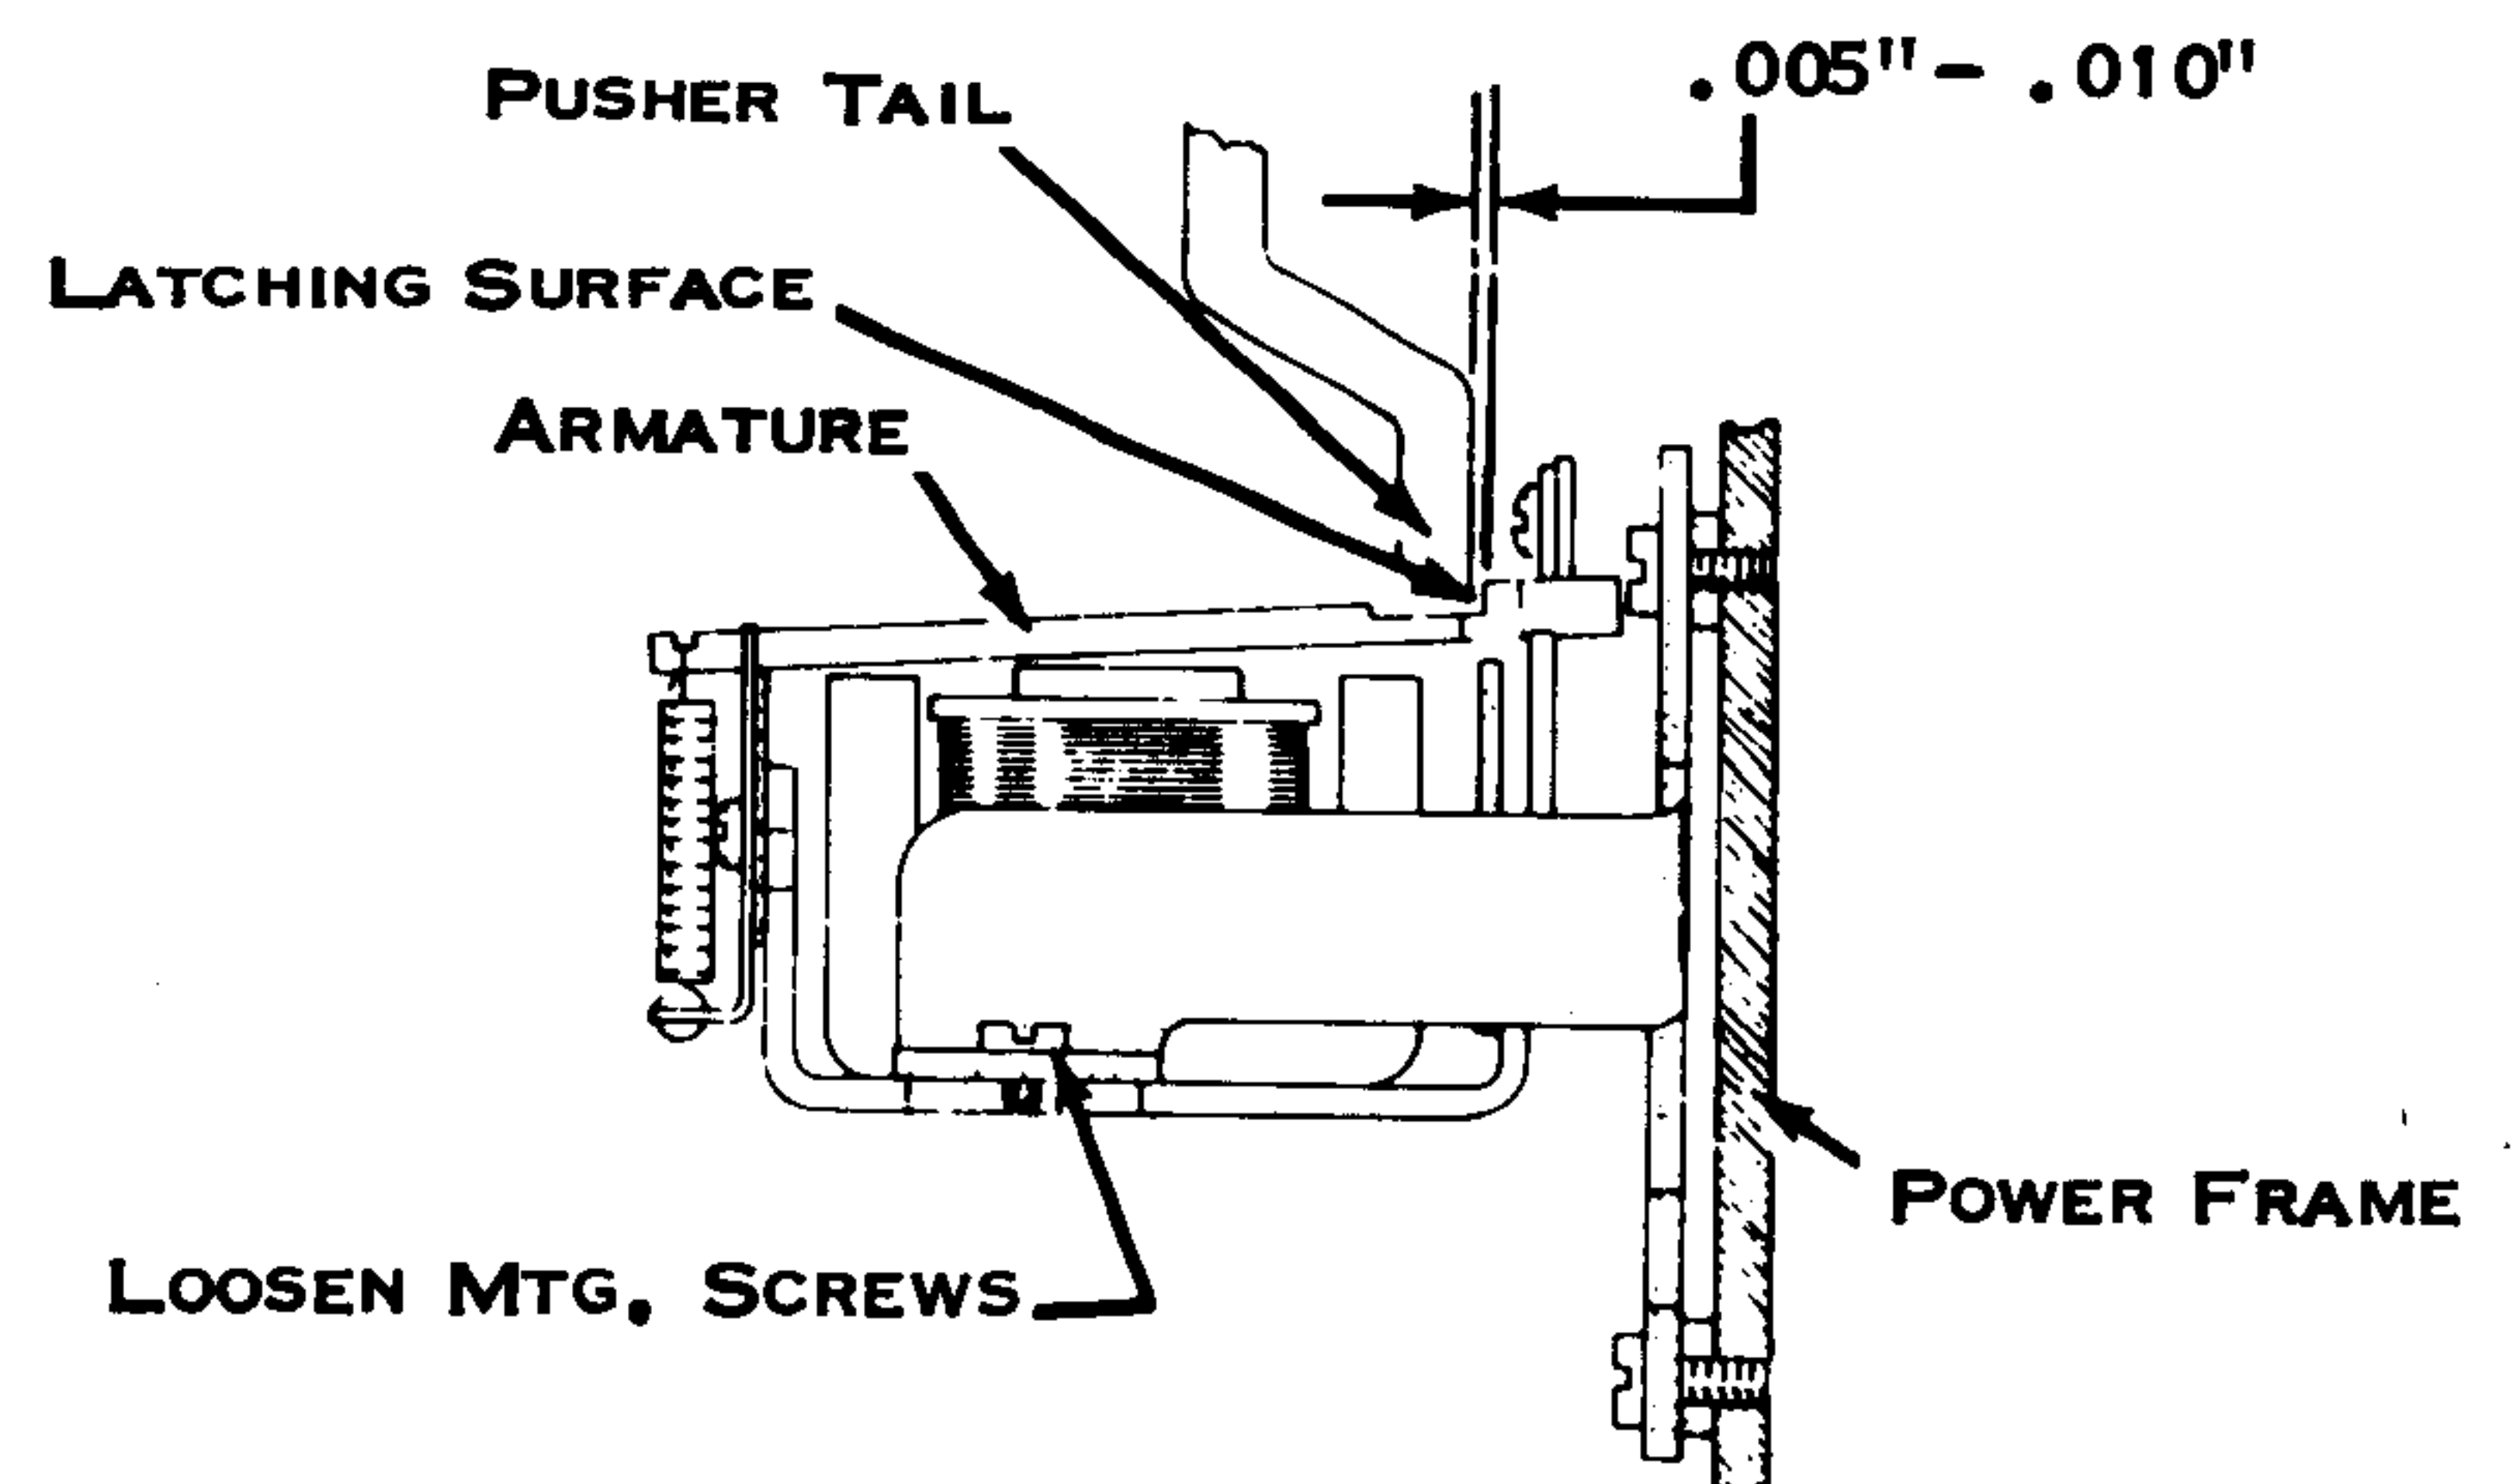

Figure 25. Magnet Unit Position
7. Magnet Unit (Fig. 25) - Position under its two mounting screws for .005" to .010" clearance between the pusher tails and armature latching surfaces (armatures at rest).